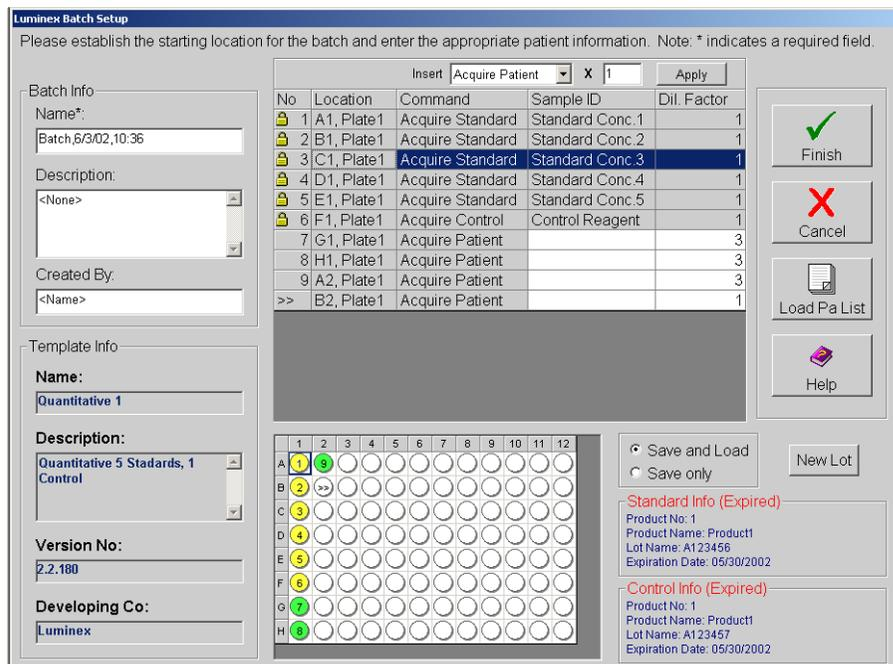

Figure 34 Luminex Batch Setup for Dilution
2. Select the desired template and click **Select**. The **Luminex Batch Setup** dialog box opens. See Figure 34.